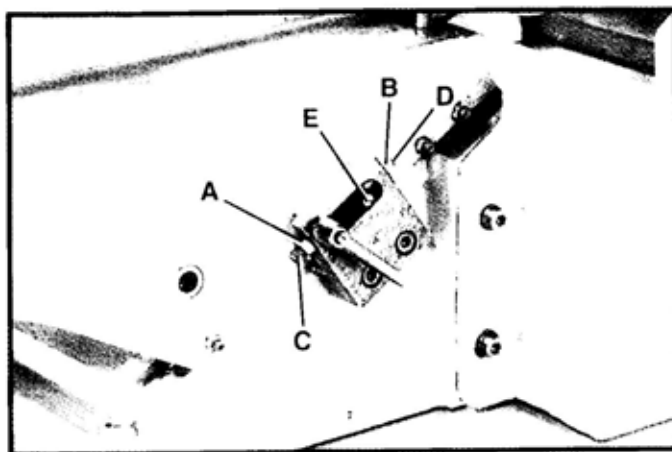

Fig. 38
2. Loosen two locknuts (A) and (B) Fig.38, and turn the adjustment screws (C) and (D), which are located at the rear of the infeed table, as required. A good suggestion is to set the upper positive stop (D) against stud (E) for your finish or final cut. This means that you will be able to rapidly set the infeed table for a finish or final cut without checking the scale and the pointer. Also, the lower positive stop (C) can be set against stud (E) at the maximum depth of cut, if desired.
3. Tighten locking nuts (A) and (B) Fig.38, after adjustments are made.